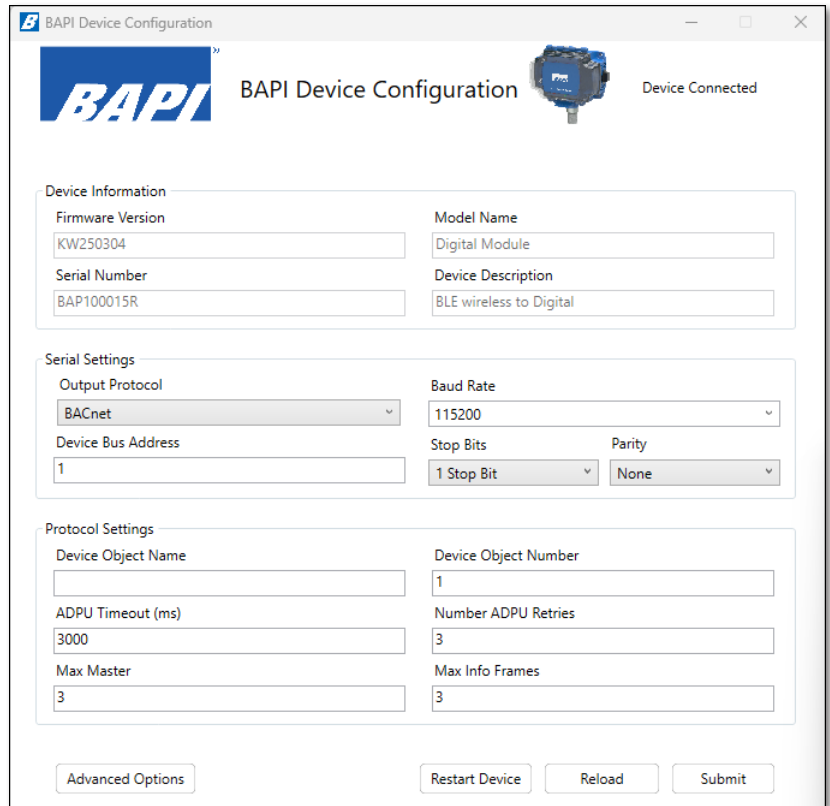

Fig. 1: Device Configuration Window in BACnet Protocol
3. Connect a USB cable between your computer and the USB-C connector on the module. The data for the device settings will populate the Device Utility Information Window (Fig 1). **Note:** The module does not need to be powered for the configuration. The USB-C cable will provide the necessary power.